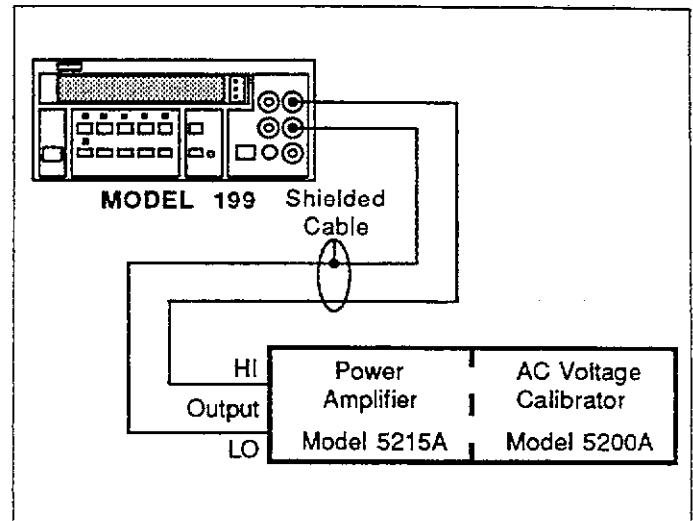

Figure 6-6. TRMS AC Volts Calibration Configuration
2. Connect the AC calibrator as shown in Figure 6-6.
- A. With the AC VOLTS function, autorange and 5½d resolution selected, connect the AC calibrator to the instrument as shown in Figure 6-6.
- B. With the AC VOLTS function and 5½d resolution selected, connect the AC calibrator to the instrument as shown in Figure 6-6.